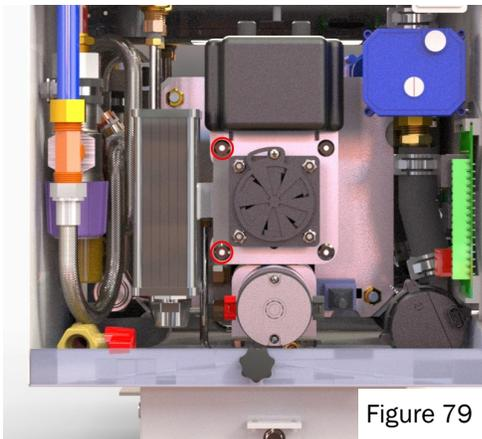

Figure 79
4. Using a 3/8" socket, remove the two nuts securing the diesel burner controller to the burner assembly. Reference figure 79 below.